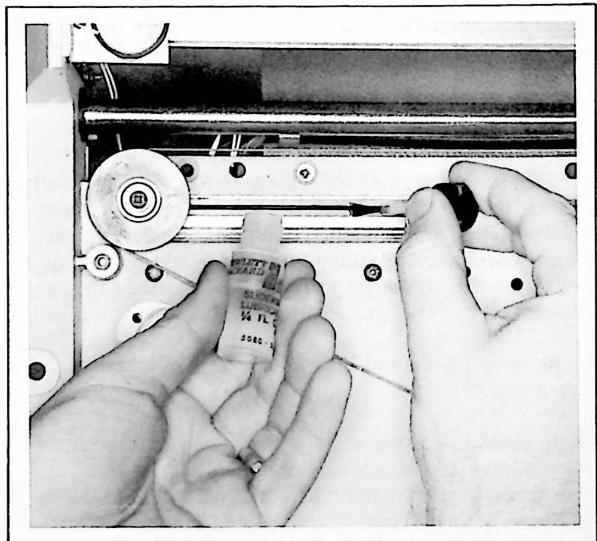

Figure 5-2. Potentiometer Lubrication
- f. After cleaning, lubricate sparingly with furnished Slidewire Lubricant, Part Number 5080-3635. Do not allow lubricant to get on drive cable. See Figure 5-2. This will reduce wear and chemical contamination.